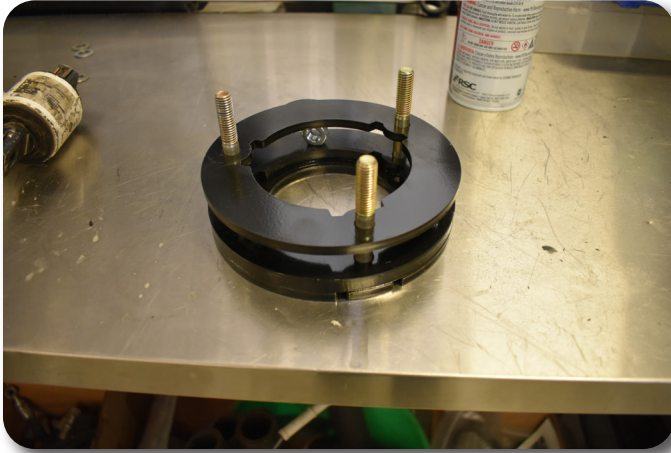

Figure 10
14. Install the preload spacers along with the new 10mm bolts into the recessed hex on the bottom of the preload spacer **Figure 10**. The thinner 1/4" preload spacer will not install with the ZR2 or AT4X models.